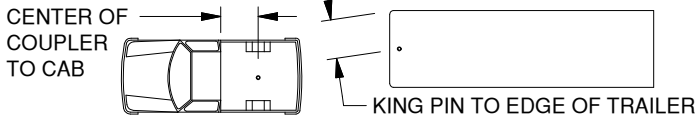

Figure D4: Truck and Trailer
3. **Evaluate clearance.** Determine if there is clearance between each truck and trailer combination before towing. Measure from the center of the coupler to the cab of the truck and from the king pin or pivot point of the trailer to the furthest forward corner of the trailer, see Figure D4. Compare these measurements to ensure proper clearance when towing. Also, inspect the clearance between the bed sides and the underside of the front of the trailer to ensure there is room for the pitch and roll of the trailer while towing.